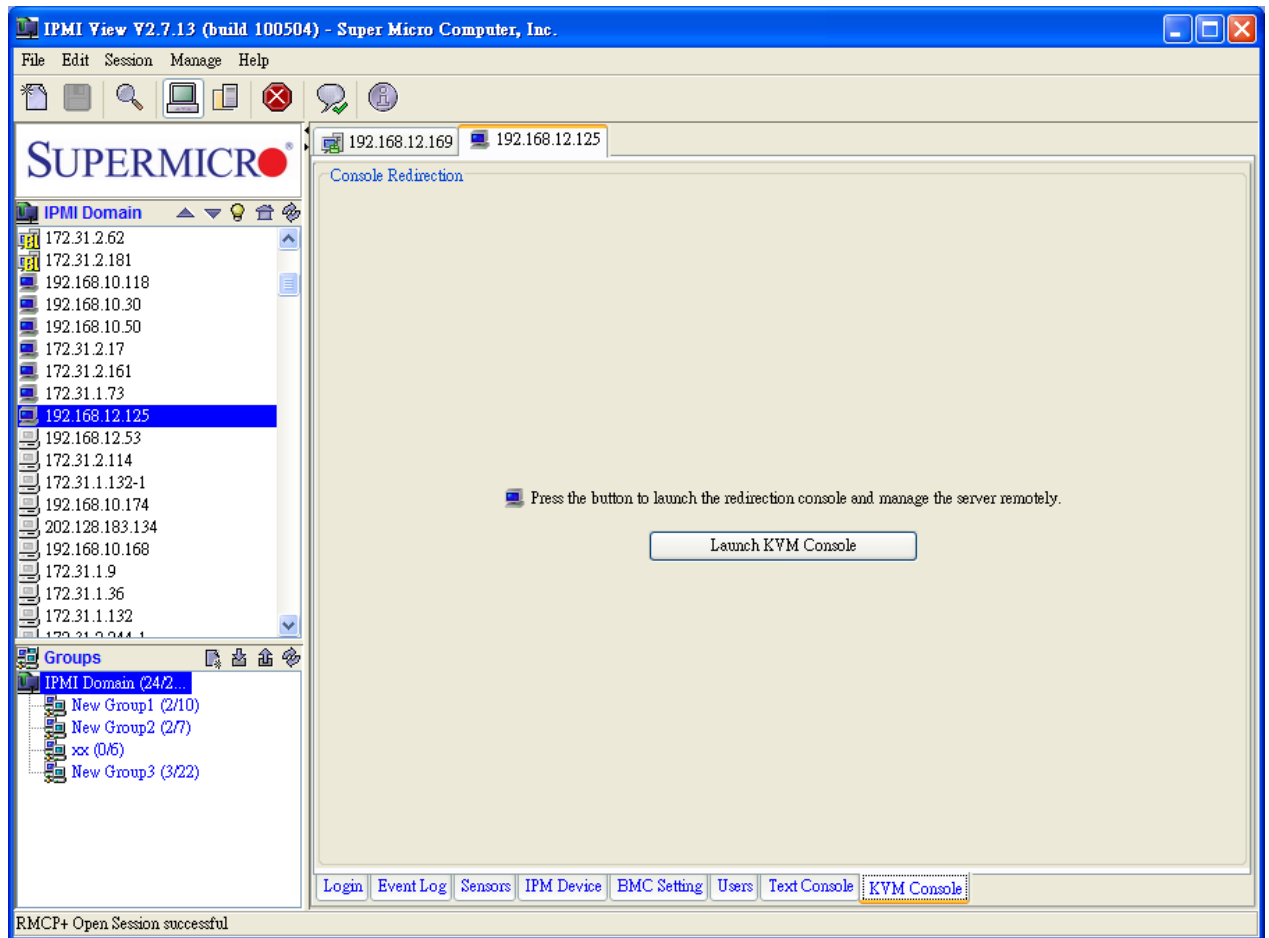

Figure C-1 SIM(WA) iKVM Window
Press <Launch KVM Console> to open SIM(WA) iKVM Window as in Figure C-1.